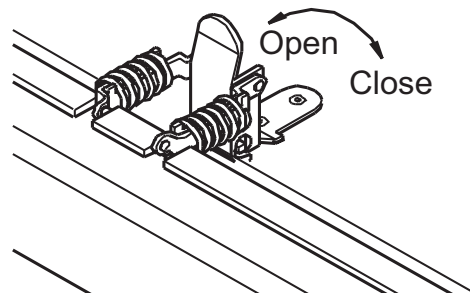

Figure 2 - Opening Door Latches
3. Open glass door by releasing 2 pairs of latches located on top and bottom of firebox (see Figure 2). You may need a screwdriver to extend spring loaded clasp over catch on door flanges. Use caution when opening latches.